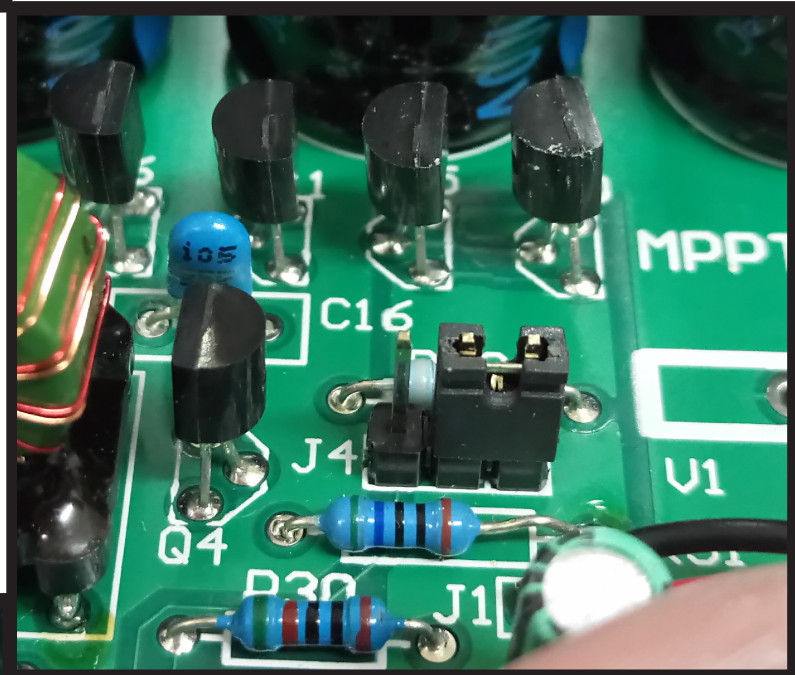

Figure 3 (Right): Sealed Battery Setting
- The above procedure can be repeated to revert a different battery chemistry setting – see **Figure 3**.